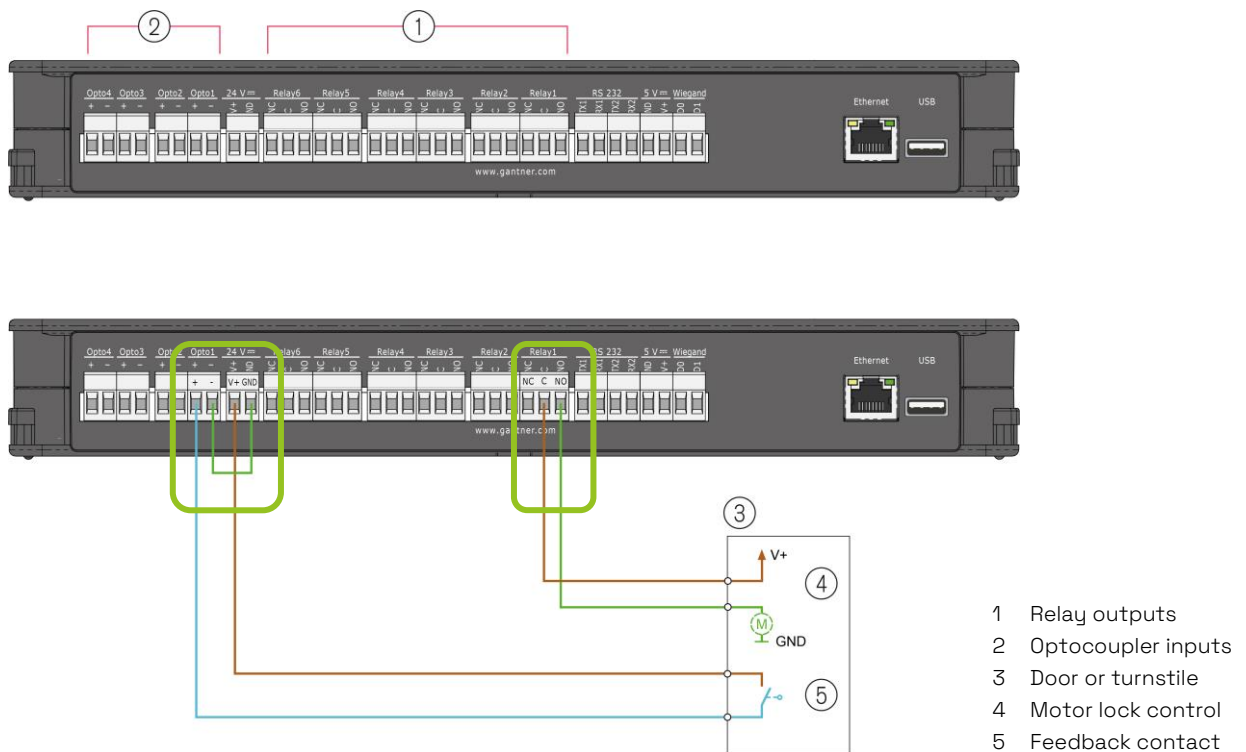

Fig. 4.4 – Connection of the relay outputs and optocoupler inputs (example)
The GC7.3000 has six floating relay outputs (1 in Fig. 4.4), which can be used to output signals when certain events occur. The controller also has four digital signal inputs in the form of optocouplers (2 in Fig. 4.4), which can be used, for example, to detect the feedback of the turnstile.
Fig. 4.4 shows an example of how a door lock (3) with its own power supply can be connected to the relay output and a feedback contact (4) for status reporting is connected to an optocoupler input.